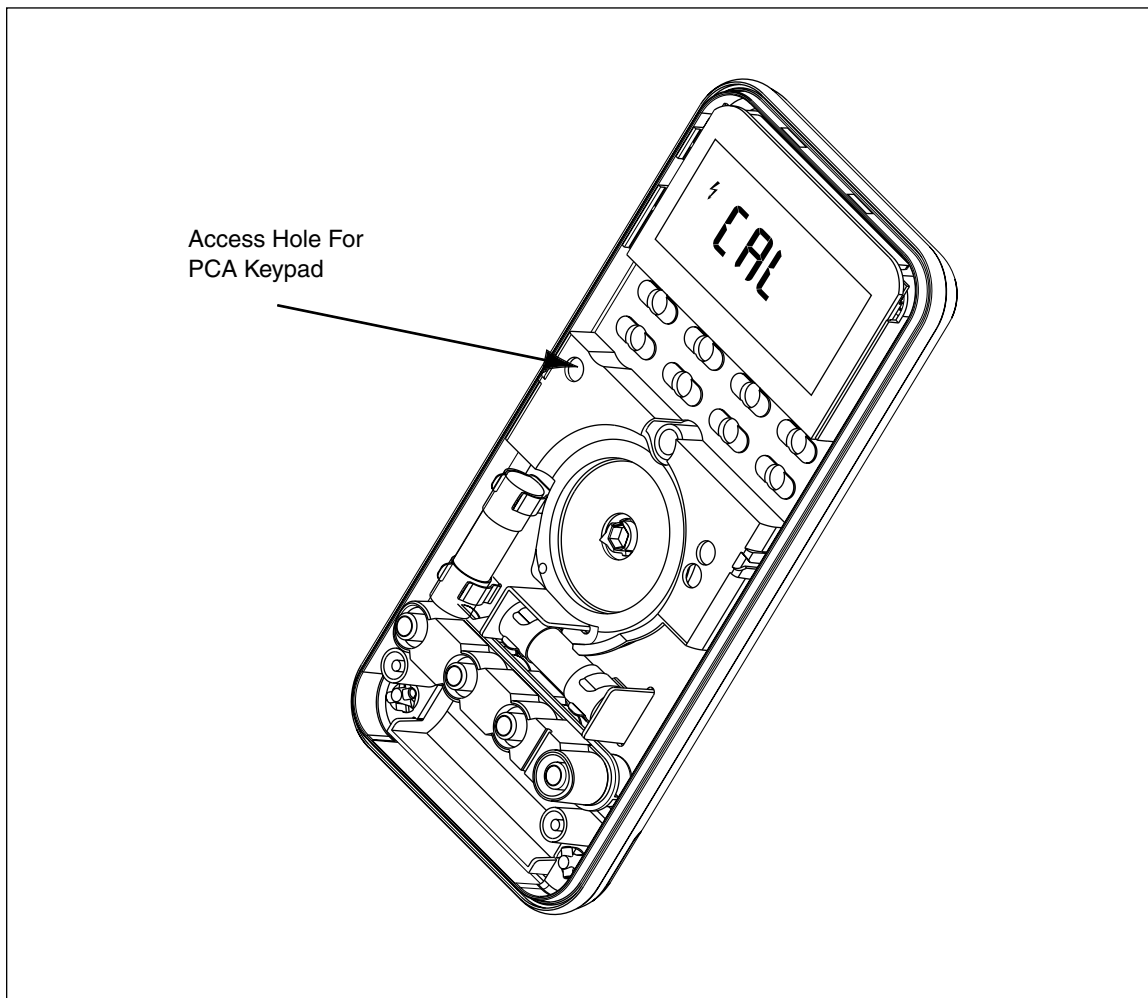

Figure 7. Restoring the Default Password
3. Through an access hole provided in the top shield, short across the keypads on the PCA. See Figure 7. The Meter should beep. The default password is now restored.